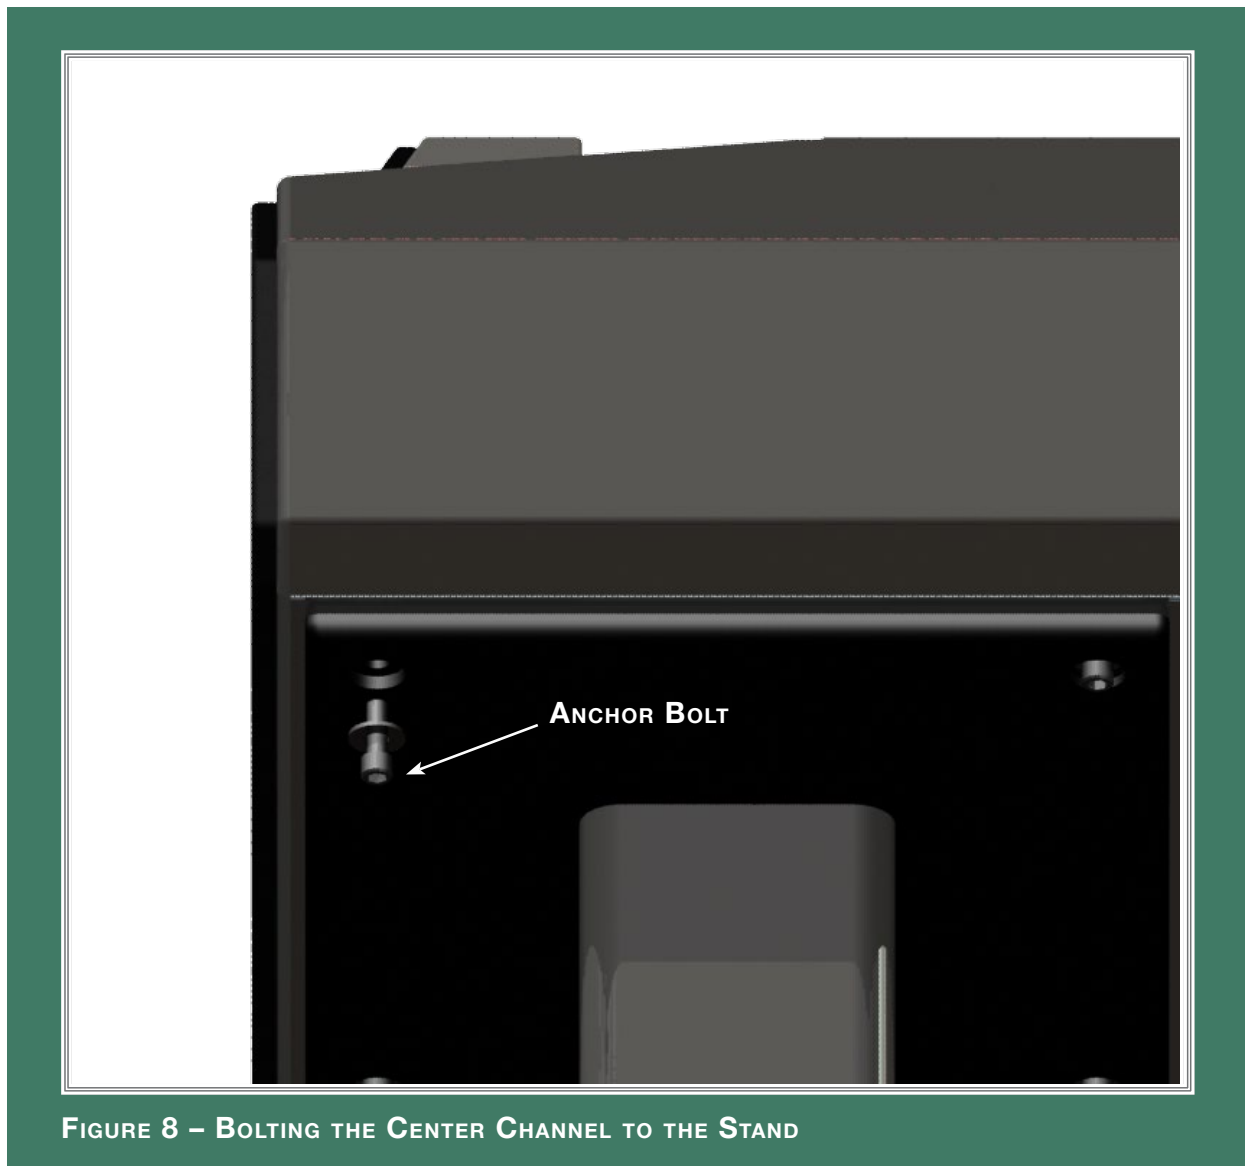

FIGURE 8 – BOLTING THE CENTER CHANNEL TO THE STAND
The Center channel allows for different listening distances (away from the speakers) and listening ear heights (measured distances from the floor up to your ear); see Figure 8 below. Propagation Delay Correction accuracy of the Center channel has been established and verified at Wilson Audio’s R&D laboratory. The tables outlining the settings for adjustments are in Section 10 of this owner’s manual. The correction tables used in this section are a result of this testing. For each distance/ear height combination there is a unique alignment geometry. To make correct in-home setup of the Center channel possible without test equipment, Wilson Audio has measured the correct geometric PDC (phase delay correction) alignment for different distance/ear height combinations. By measuring the ear height and the distance from the speaker to the listening position, you will be able to align the system for your listening position.
4. Bolt the Center channel to the stand using the four 3/8 – 16 threaded socket head cap screws and washer provided (see Figure 8).